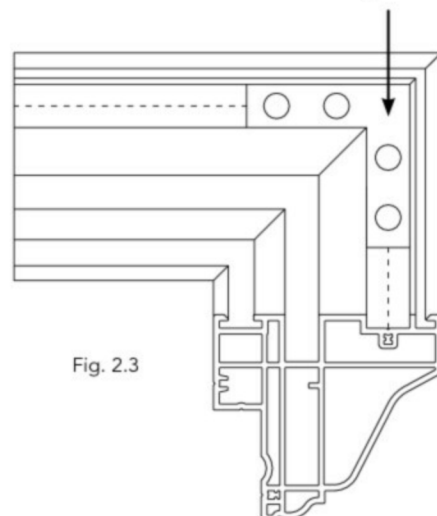

Fig. 2.3
- With the frame face down, set a metal L Bracket on the back of the frame in each corner. (See Fig. 2.3)